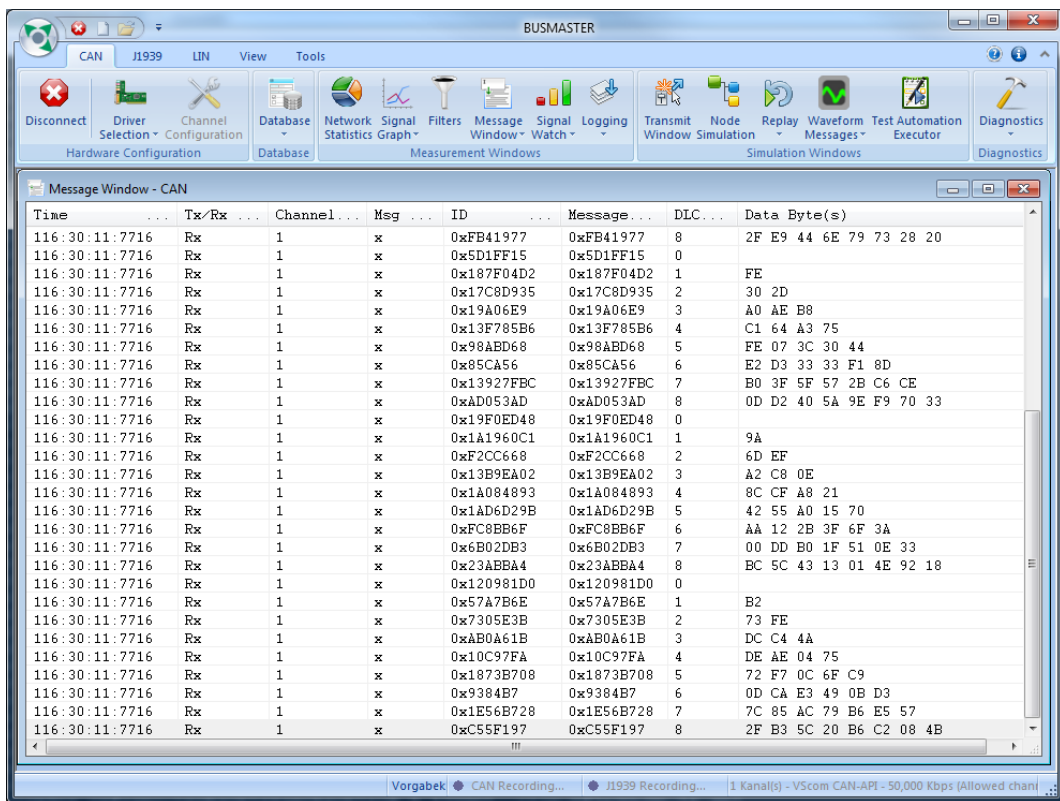

Figure 17: BUSMASTER: Received Frames
6. If there are CAN frames on your CAN bus, you’ll see them in the „Message Window” (see Figure 17)